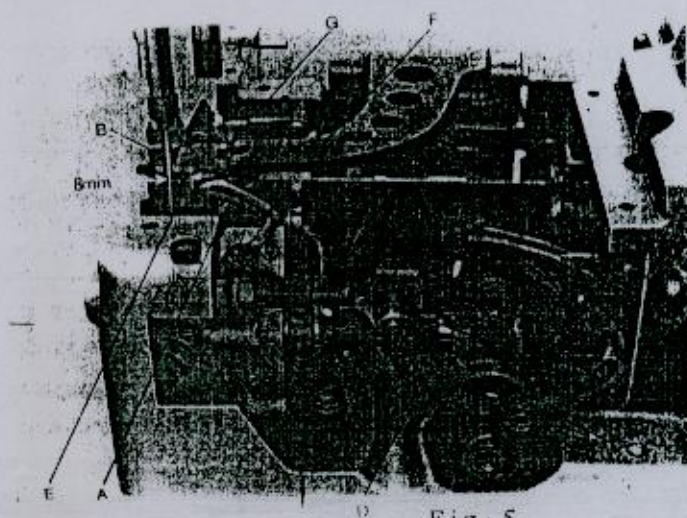
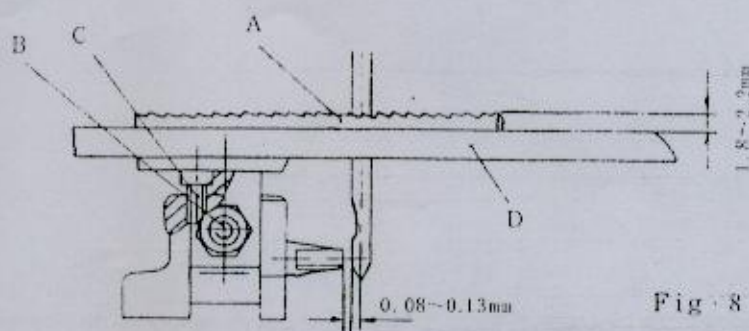

Fig. 5
Fig. 8
(2). Rotate the machine pulley clockwise by hand, so that the needle bar moves to the lowest point, at the same time the looper moves back to its farthest position to the right. The distance from the point of the looper (A, Fig. 5) to the centerline of the needle is 8mm (5/16 in.). For adjustment, loosen two screws (C) in the looper drive lever, rotate looper drive lever (D) left or right as required to obtain specified dimension and retighten screws (C).
The needle will bend or break when abutting bags made of different thickness of sewing material. And the needle guard (E, Fig. 5) will protect the needle. The clearance between the needle and the needle guard is 0.08-0.13mm (.003 to .005 in.) (Fig. 8). For adjustment, rotating pulley in the direction of operating, so that the needle guard moves against the needle. Loosen set screw (G) on feed dog holder (Fig. 5), move the needle guard accordingly. Retighten screw (G).
The height of the feed dog (A, Fig. 8) are determined by the quality and thickness of the sewing materials. For closing thin material such as bags made of cloth and plastic, teeth should project 1.5mm (.070 in.)